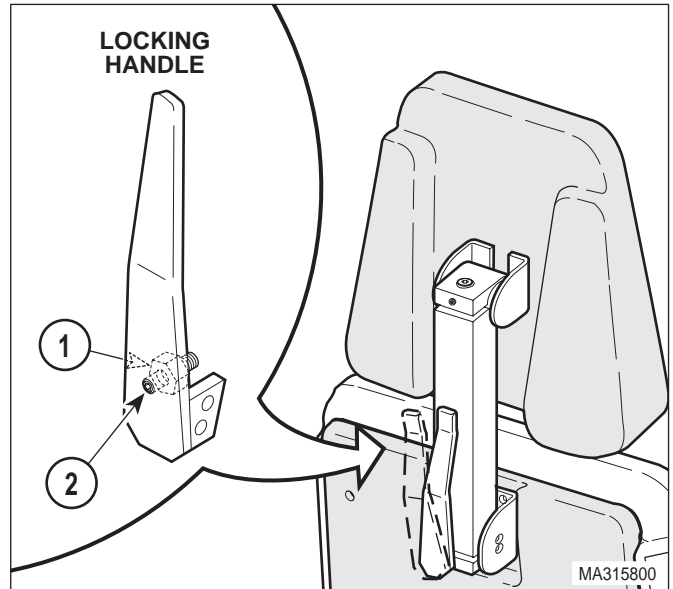

Figure 4-29. Headrest Locking Handle Stop Adjustment
- (1) Loosen nut (1, Figure 4-29).
- (2) Push on locking handle until it reaches a point where the locking handle wants to lock itself by going over center; then allow locking handle to go over center a few degrees. Hold the locking handle in this position and adjust stop screw (2) so the locking handle will be forced to stop in this position each time it is locked.
- (3) Tighten nut (1).